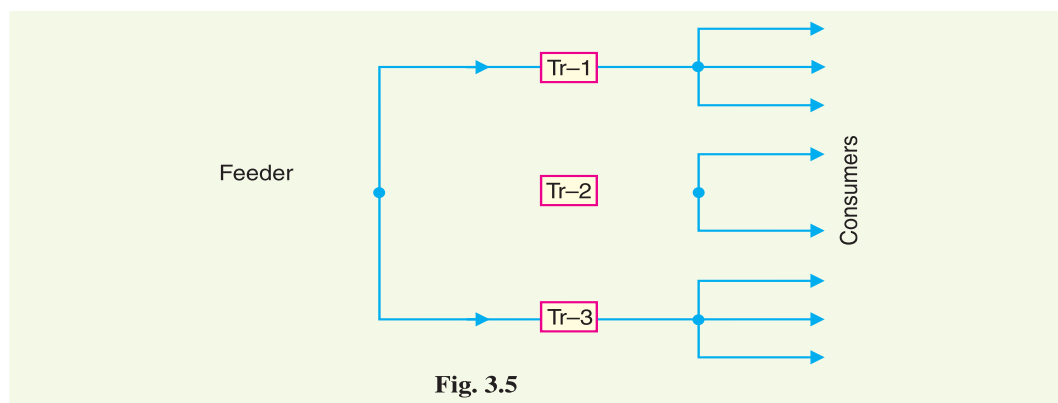

Fig. 3.5
**Solution.** Fig. 3.5 shows a feeder supplying three distribution transformers.